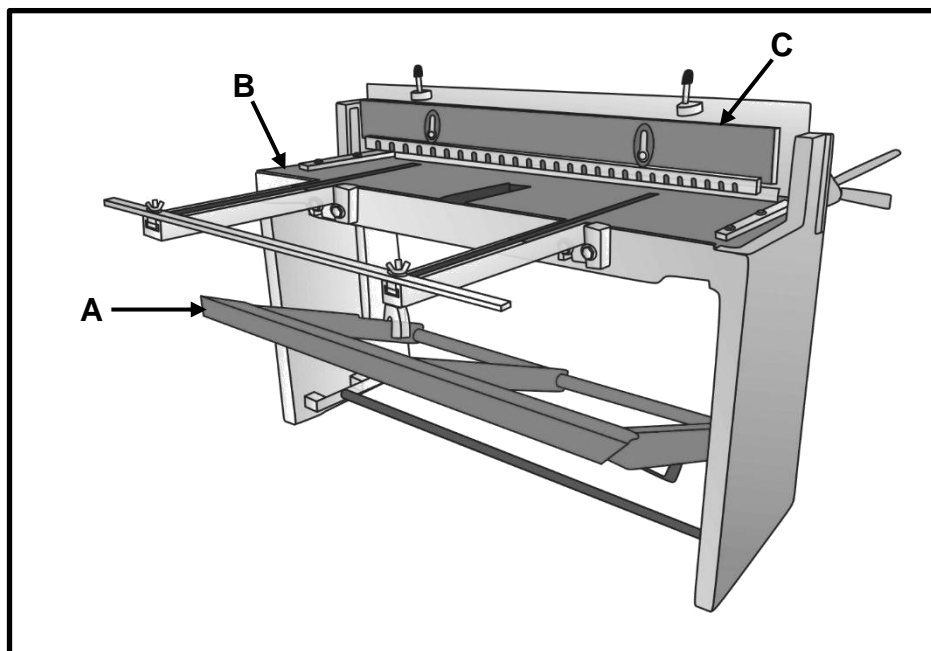

FIGURE 6.1
6.1 FIGURE 6.1 below shows a manual guillotine. Label parts **A–C**.